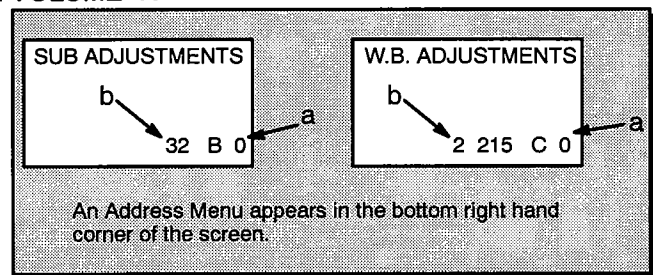

Figure 10. Serviceman Mode Menu Adjustments
Note: Only the applicable settings for the Receiver serviced will be available (see a in Figure 10).
1. Press **Channel Up/Down** on the Remote Control to select one of the 8 available Service Adjustments (a in Figure 10).
Important Note: Write down the original value set (b in Figure 10) for each address before modifying anything. It is easy to erroneously adjust the wrong item.
2. Press **Volume Up/Down** on the Remote Control to adjust the level of the selected Service Adjustment (b in Figure 10).
1. Press **Channel Up/Down** on the Remote Control to select one of the 12 available Service Adjustments (a in Figure 10).
Important Note: Write down the original value set (b in Figure 10) for each address adjustment before modifying anything. It is easy to erroneously adjust the wrong item.
1. Press **Channel Up/Down** on the Remote Control to select one of the 14 available Options Adjustments (a in Figure 10).
1. Press **Channel Up/Down** on the Remote Control to select one of the 5 available MTS Adjustments (a in Figure 10).
***Important Note:** Write down the original value set (b in Figure 10) for each address before modifying anything. It is easy to erroneously adjust the wrong item.*